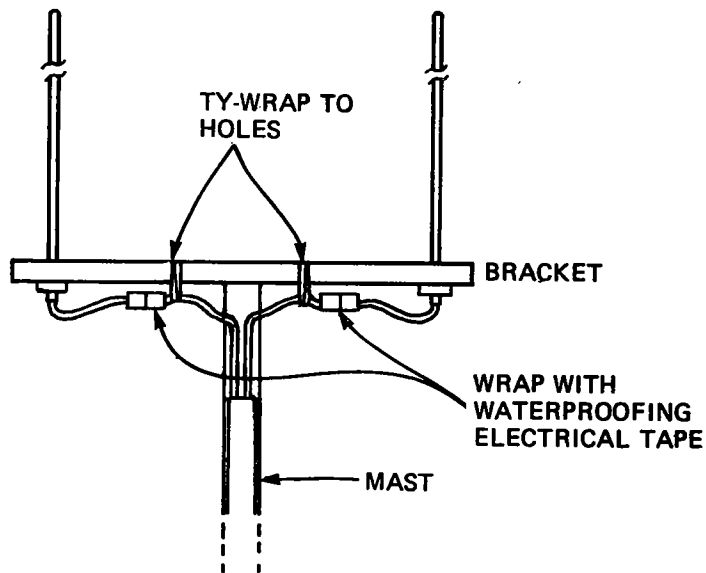

Figure 2-3. Coaxial Cable Installation Details
2.5.2.6 Coaxial Cable Attachment to Antenna Unit. - Connect the coaxial cables to the antenna unit as shown in figure 2-3. The cables must be support (Ty-wrapped) to the bracket and should not be allowed to flop in the wind. Avoid sharp bends in the coaxial cables. The coaxial connectors should not be under tension especially on long vertical cable runs. This may cause the connectors to part.